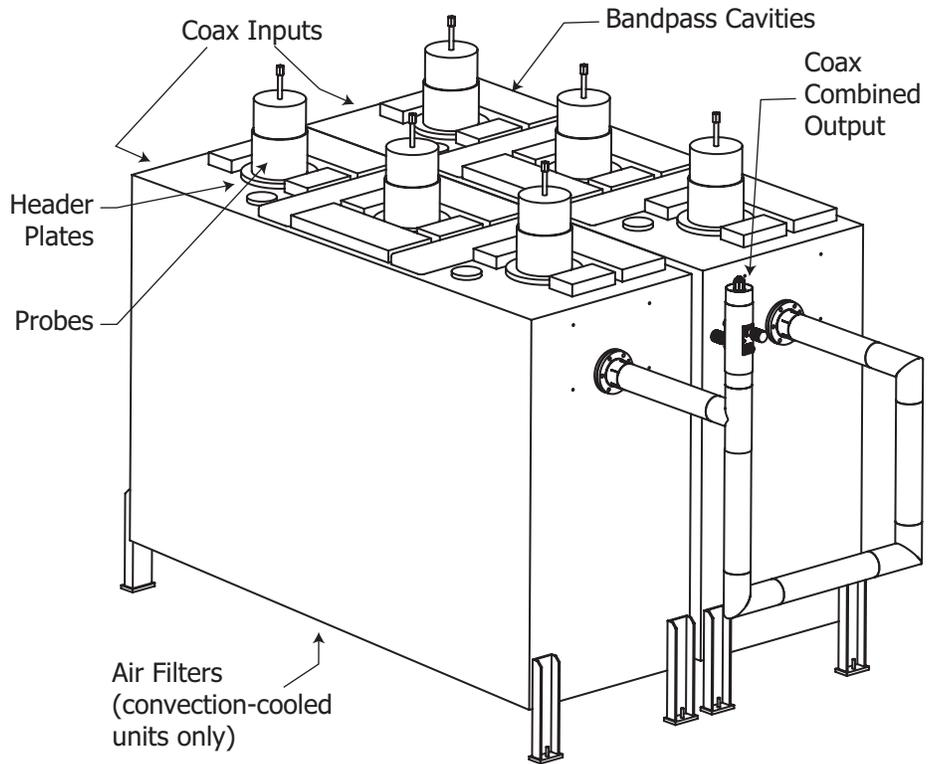

Figure 1. Typical branched combiner
Figure 1 on page 2 shows the basic layout of a Shively Labs branched combiner system. Not shown is the coax support stand at the combiner output of some units.
- d. Check the filter temperature. It will generate its highest temperature at the header plates and around the probes (see Figure 1 on page 2). Check each cavity by hand for the hottest areas. Measure and record this temperature. This may be considered the normal operating temperature of that filter.